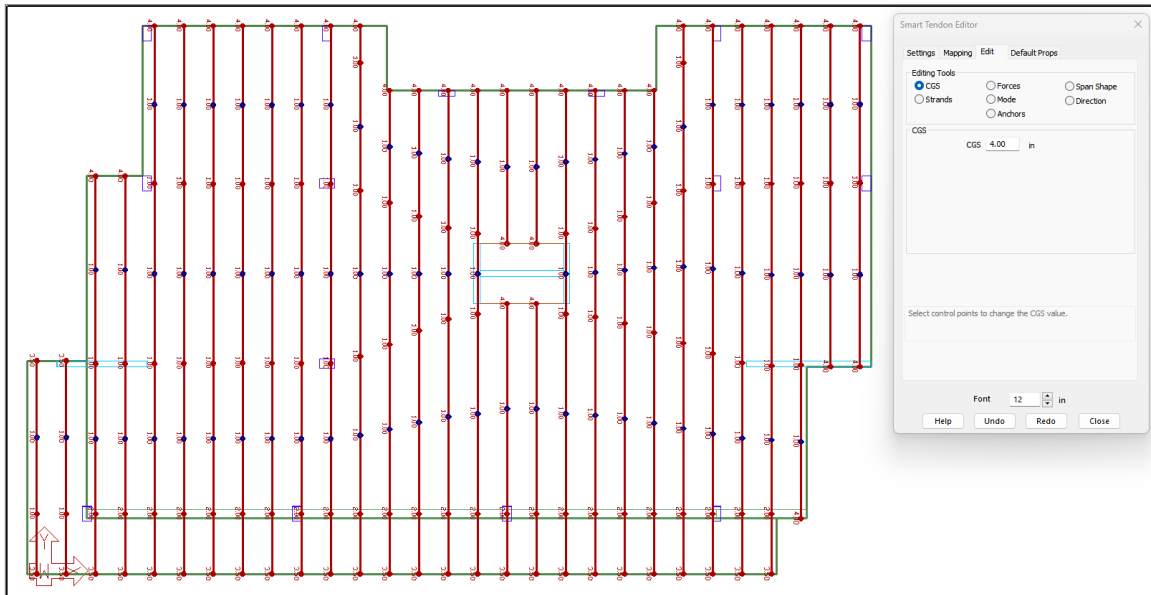

FIGURE 9-82
- When complete, your model should look as shown in **FIGURE 9-82**.